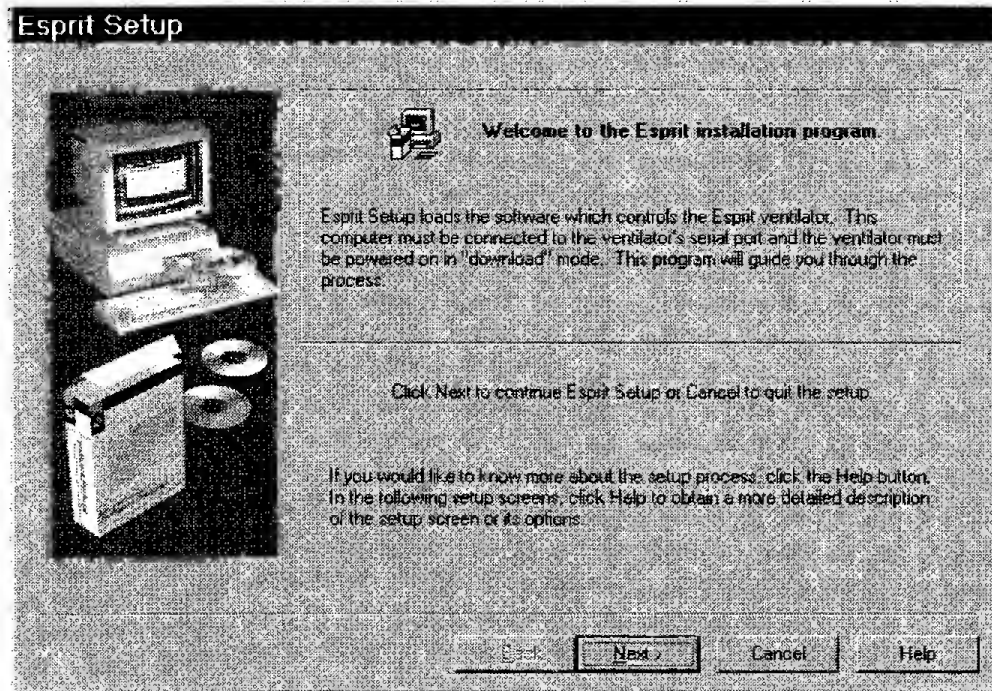

Figure 5-7: Software Download Intro Screen
3. An introduction screen will appear on the PC (see Figure 5-7). Click on NEXT to continue or CANCEL to abort the program.